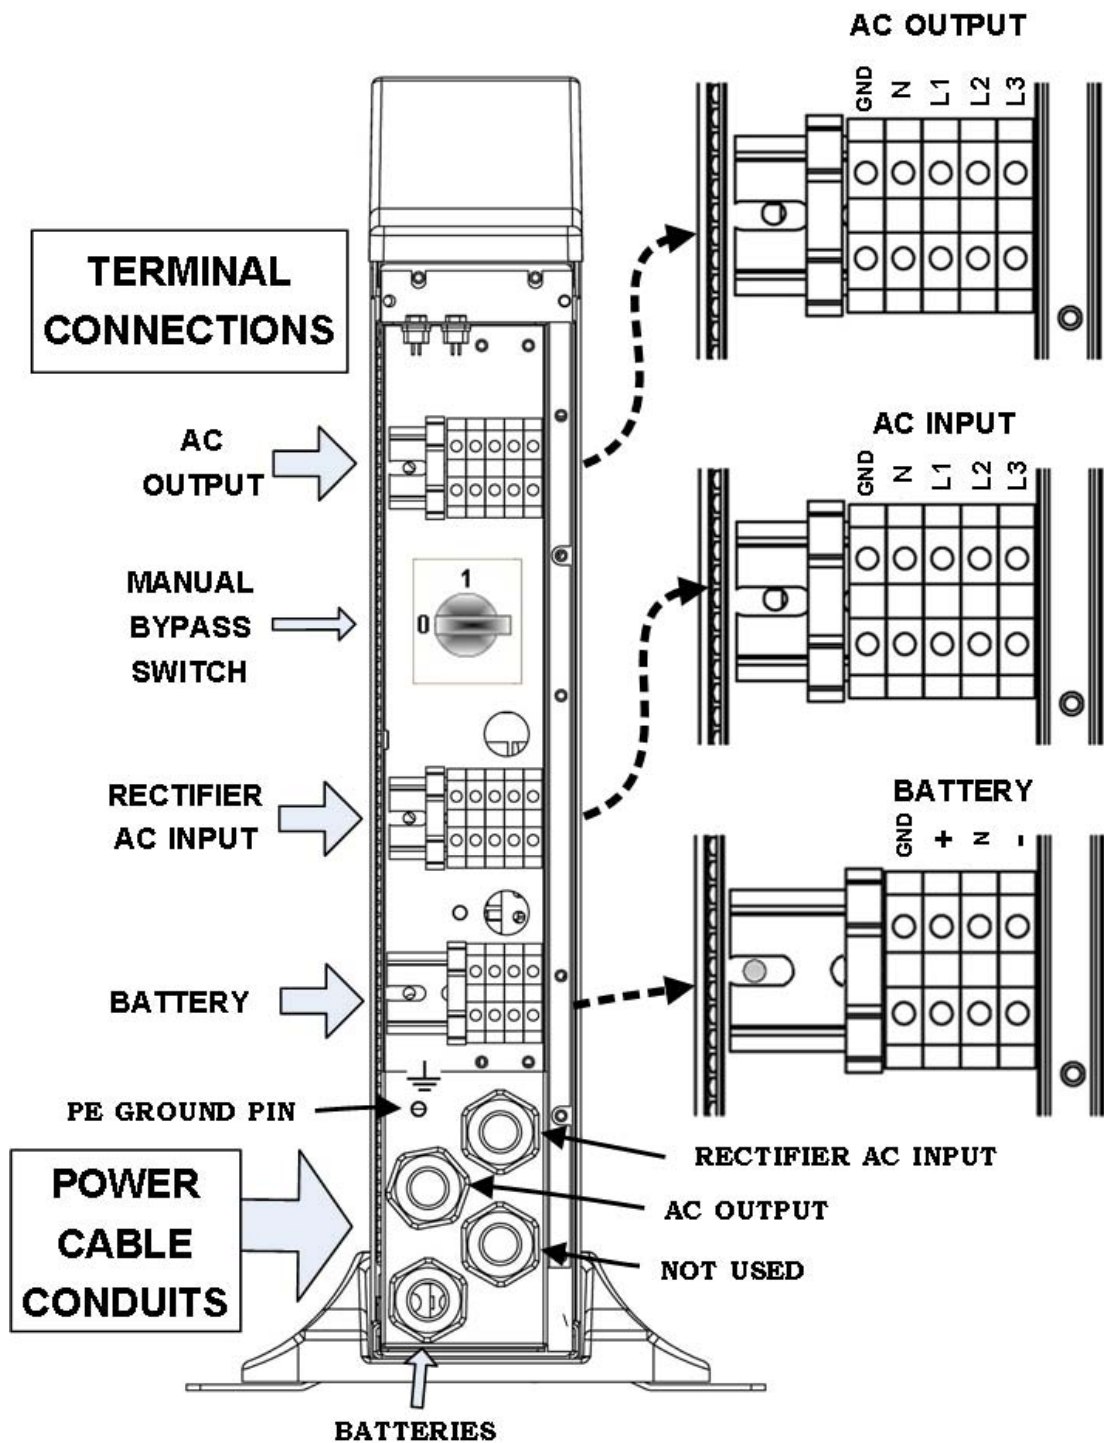

Figure 5: UPS rear panel view, with protective cover removed
6. Connect the UPS wiring according to the labeling on the unit, shown in Figure 5 on page 41.
7. Run the **ac output cable** through the cable holder labeled “ac output” in Figure 5. Connect the cable to the ac output terminals, also detailed in Figure 5. Use the appropriate grade of wire as specified in Table 5 on page 39, or according to local electrical codes.
8. Run the **ac input cable** through cable holder labeled “ac input” in Figure 5. Connect the cable to the ac input terminals, also shown in Figure 5. Use the appropriate grade of wire as specified in Table 5 on page 39, or according to local electrical codes.
9. Run the **batteries cable** through the cable holder labeled “Batteries” in Figure 5. Connect the cable to the ac input terminals, also shown in Figure 5. Use the appropriate grade of wire as specified in Table 5 on page 39, or according to local electrical codes.
11. Connect the **PE-Ground cable** to the PE-Ground pin, shown in Figure 5.